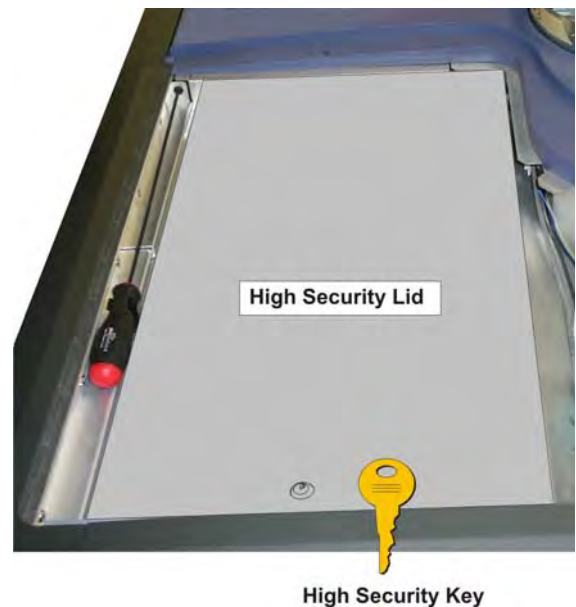

Figure 5-2 High Security Lid
2. Using the high security key, unlock the high security lid. **(Figure 5-2)**